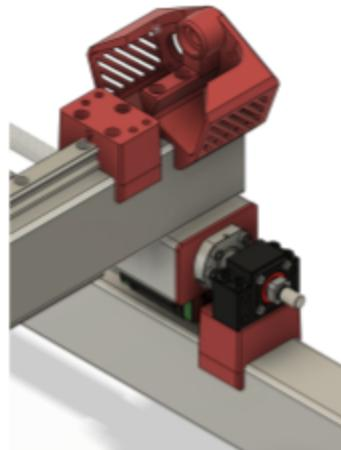
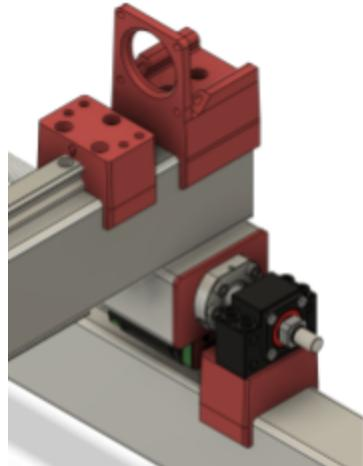

Figure 10.3
Figure 10.4
5. Ensure the BK12 mount is oriented correctly. The three counterbored holes should form an arrow pointing away from the HGR20 rail as shown in Figure 10.3.
7. Ensure the motor mount is oriented correctly. If you are using the dual NEMA 17 mount it should be oriented as shown in Figure 10.3. If you are using the NEMA 23 mount it should be oriented as shown in Figure 10.4.